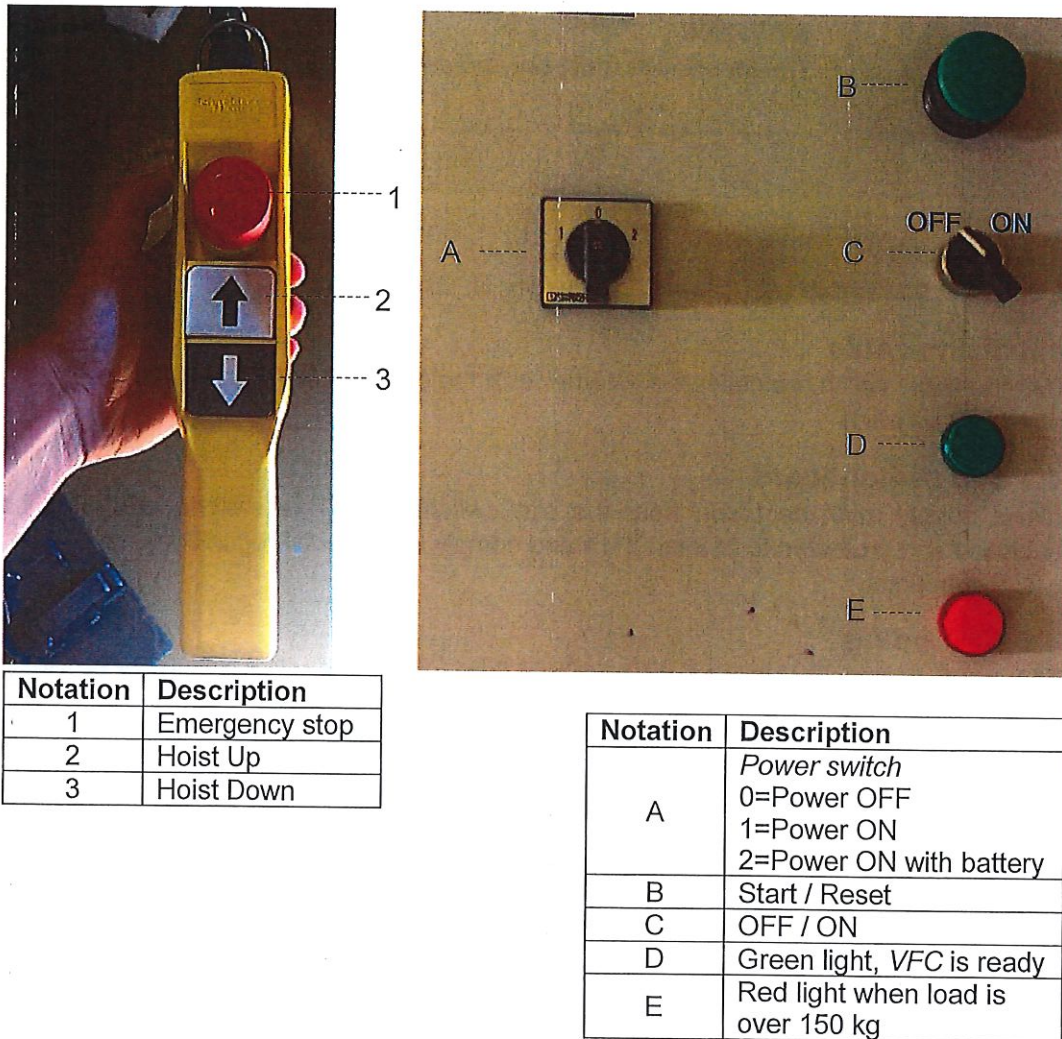

Figure 4, illustrate the hand control, switches and indicators used on the iRaptor
To make the rescue crane ready for hoisting goods or single person descending, following changes on the electrical cabinet of the rescue crane needs to be done, see Figure 4.
1. Turn C to ON, see Figure 4.
2. Turn A to 1, see Figure 4.
3. Press button B, Start, see Figure 4.
4. Check D if VFC is ready, see Figure 4. A green light shows.
5. Take the hand control in your hand and test the command "2-Hoist Up", "3-Hoist Down" and "1-Emergency Stop", see Figure 4.